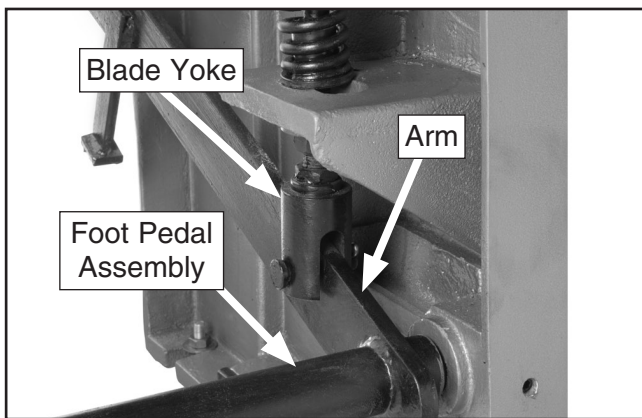

Figure 7. Foot pedal assembly.
1. Attach the blade yokes to the arms of the foot pedal with the M14-2 x 50 bolts, washers and nuts, and tighten in position (**Figure 7**).